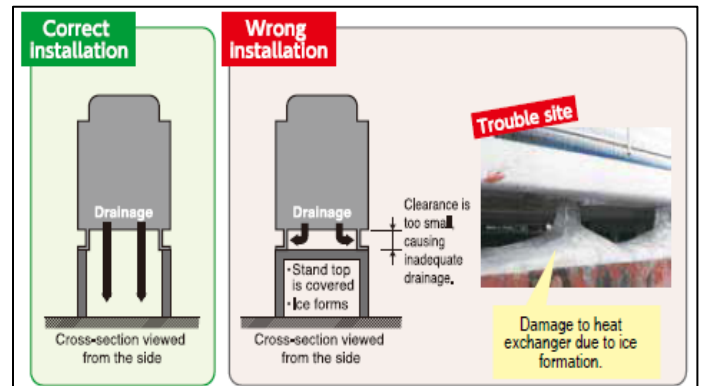

Figure 3: Units installed on stands
- Do not install the outdoor unit near walkways as the drained condensate may freeze along walkways and cause a slip hazard (**as per figure 3 below**).